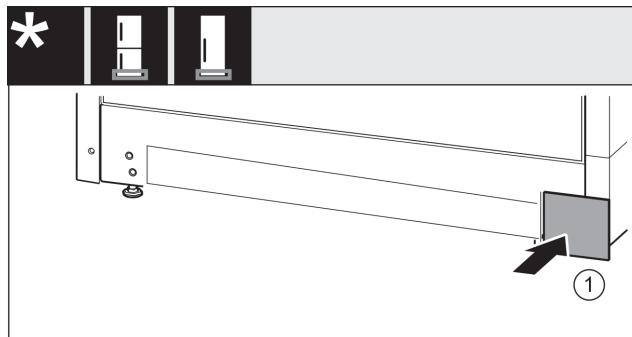

Fig. 19
- Re-attach the cover Fig. 19 (1) on the other side.